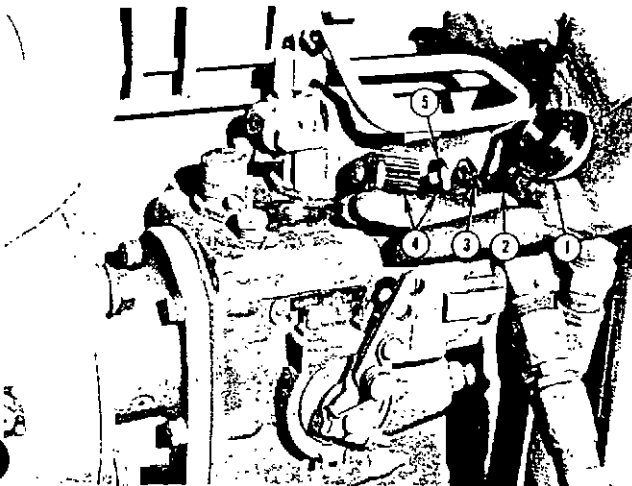

Fig. 5-32, N11950. Fuel pump filter assembly — PT (type G) fuel pump
1. Loosen and remove cap (1, Fig. 5-32) and "O" ring (2) spring (3). Lift out filter screen assembly (4).
2. Remove top screen retainer (5) from filter screen assembly.